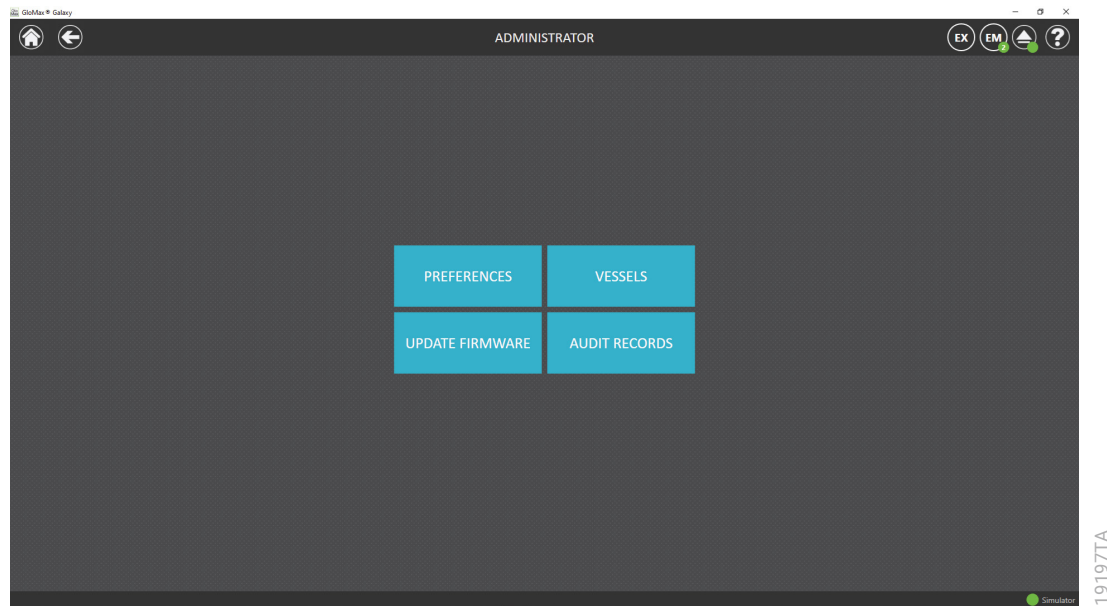

Figure 40. 'Administrator' screen.
2. On the 'Settings' screen, select the **Administrator** button to open the 'Administrator' screen (Figure 40).